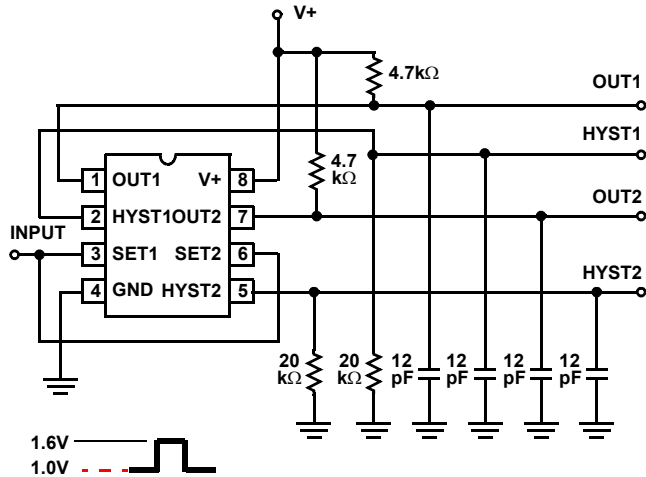

FIGURE 7. TEST CIRCUITS
The specifications below are applicable to both the ICL7665S and ICL7665SA. V+ = 5V, TA = +25°C, Test Circuit Figure 7. Unless Otherwise Specified
**Electrical Specifications** The specifications below are applicable to both the ICL7665S and ICL7665SA.  $V_+ = 5V$ ,  $T_A = +25^\circ C$ , Test Circuit Figure 7. Unless Otherwise Specified **(Continued)**